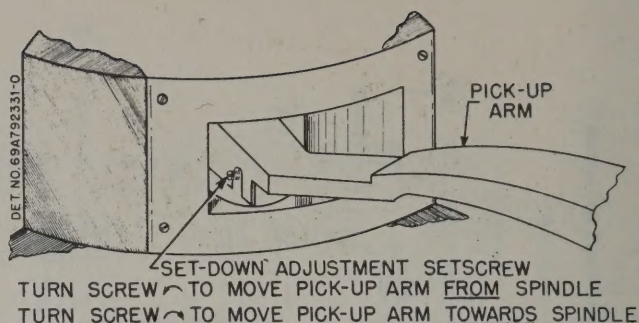

FIGURE 12. NEEDLE SET-DOWN ADJUSTMENT
4. If the needle does not land on the line, adjust the set-down setscrew (55) located on the pick-up arm (see Figure 12). Turn the setscrew clockwise to move the